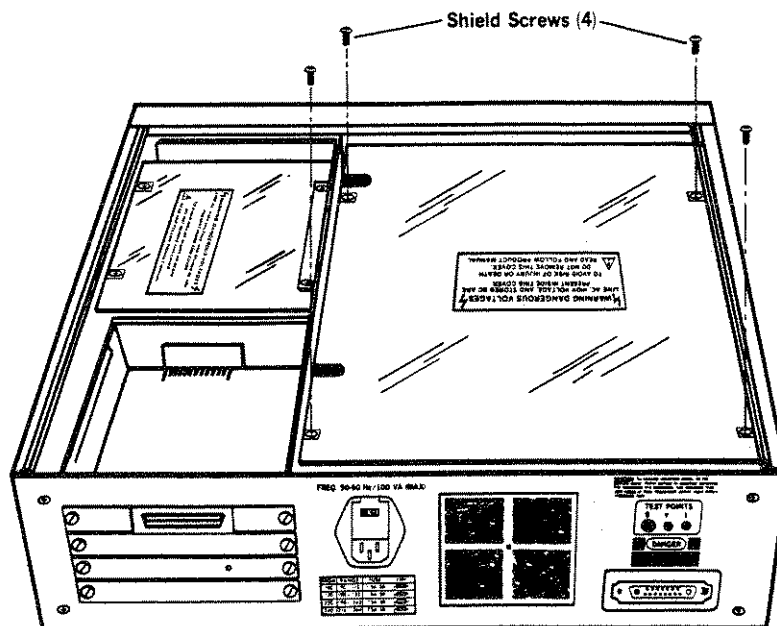

Figure 7-11. Removing the Low Voltage Shock Shield
STEP 4. Remove the 4 screws that secure the Low Voltage Shock Shield and remove the shield. Refer to Figure 7-11.